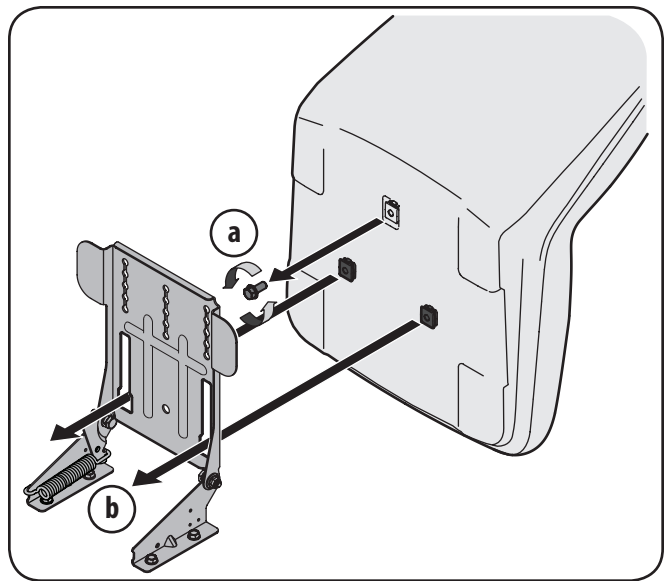

Figure 3-4
1. As already instructed, remove the seat adjustment bolt installed by the factory in the bottom of the seat. See “a” in Figure 3-4.
2. Align the seat over the seat pivot bracket as shown in Figure 3-4 and fit the seat onto the pivot bracket inserting the two tabs on the seat bottom into the slots on the pivot bracket.